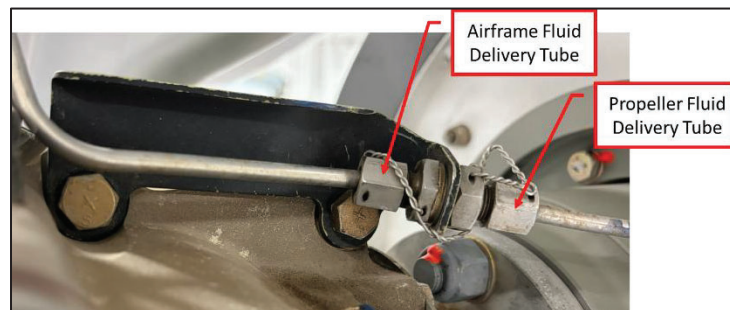

Figure 7: Fluid Delivery Bracket and Tubes
- 2) Disconnect and remove the existing propeller fluid delivery tube and jam nut. Retain the B-nut and jam nut for reinstallation below. Reference Figure 7.